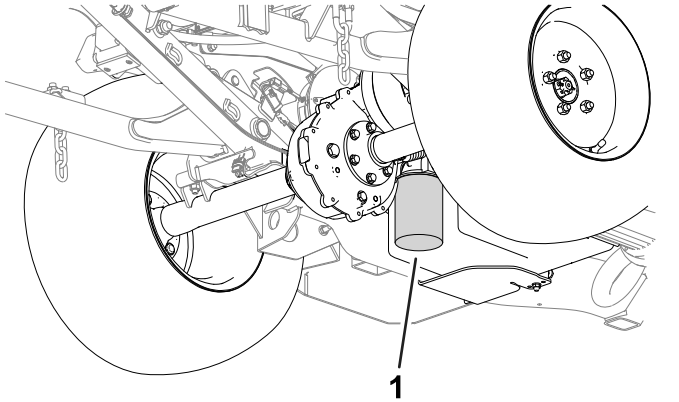

Figure 62
1. Clean the area around the hydraulic-filter mounting area (shown in Figure 62).